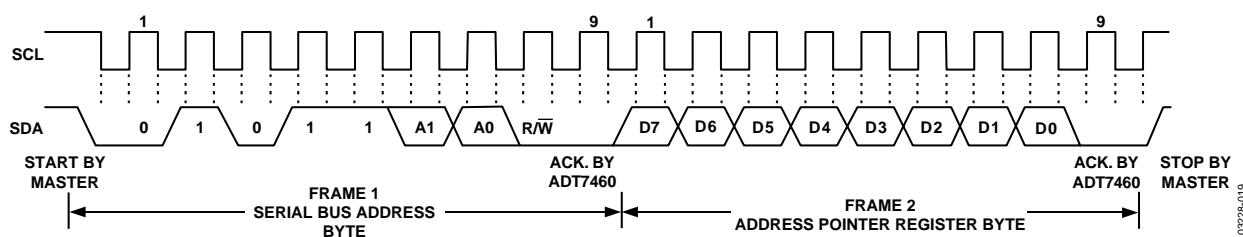

Figure 19. Writing to the Address Pointer Register Only
- If the ADT7460's address pointer register value is unknown or not the desired value, it is first necessary to set it to the correct value before data can be read from the desired data register. This is done by performing a write to the ADT7460 as before, but only the data byte containing the register address is sent because data is not to be written to the register. This is shown in Figure 19.
- If the address pointer register is known to be already at the desired address, data can be read from the corresponding data register without first writing to the address pointer register, so Figure 19 can be omitted.